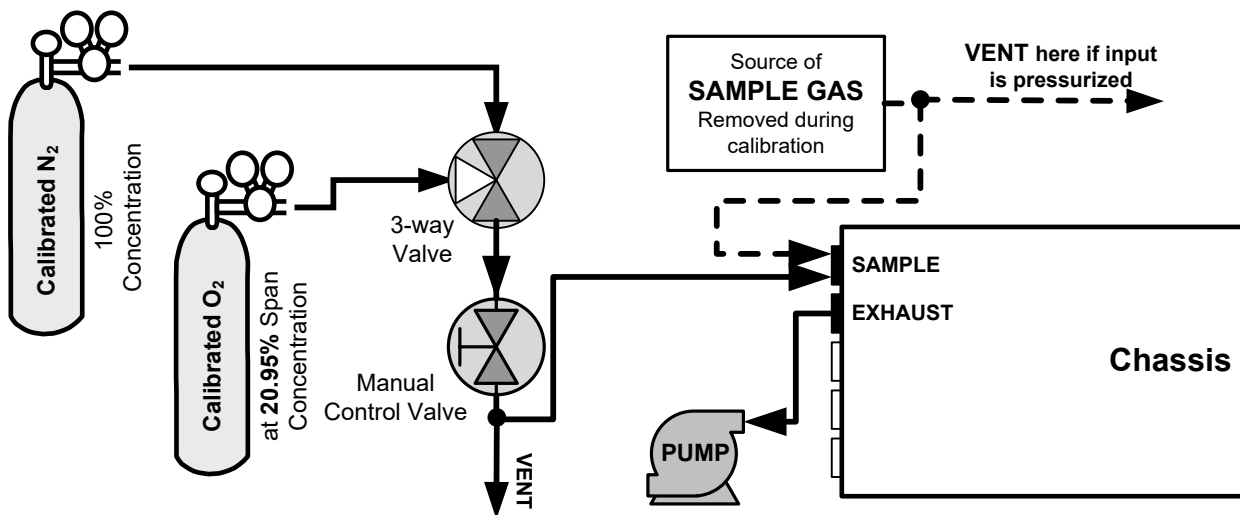

Figure 2-13. Basic Configuration, Using Bottled Span Gas
- The span gas, zero air supply and sample gas line MUST be vented (Figure 2-13)
- In applications where the sample gas is received from a pressurized manifold, a vent must be placed on the sample gas before it enters the analyzer (Figure 2-13).
Figure 2-13 shows the basic configuration for pneumatic connections using bottled span gas.
- In applications where the sample gas is received from a pressurized manifold, a vent must be placed on the sample gas before it enters the analyzer(Figure 2-13).